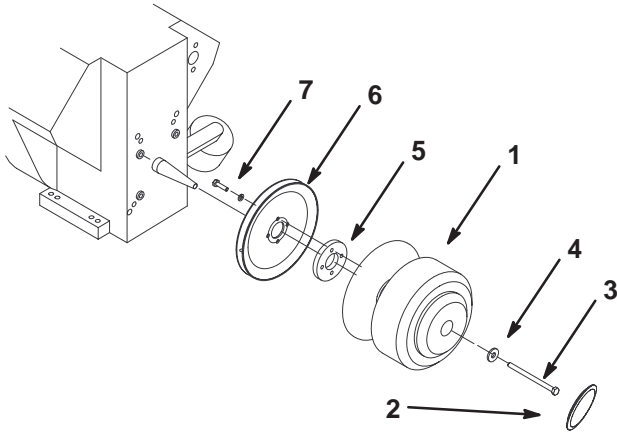

Figure 1
3. Remove the plastic cap from the drive clutch (Fig. 1).
4. Remove the bolt and washer securing the drive clutch to the engine tapered shaft (Fig. 1).
1. Install the alternator drive pulley and spacer to the back of the drive clutch, as illustrated in Figure 1, using 4 bolts (1/4 x 1 inch) and lock washers (1/4 inch).